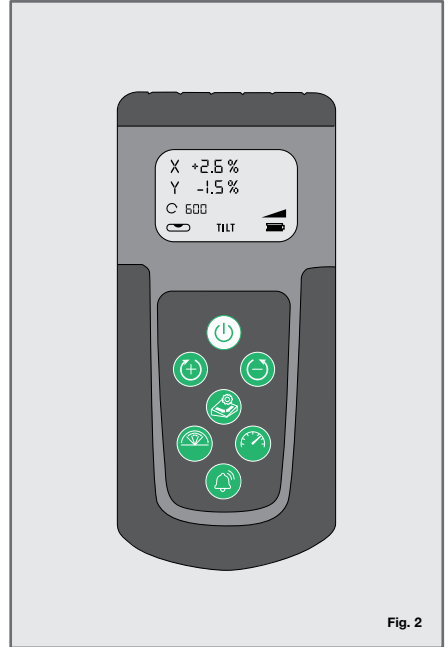

Fig. 2
- To set a grade / slope percentage on the Y-axis, press the **grade adjustment** buttons on the remote control to change to the desired number (positive or negative). When the required grade / slope percentage has been selected, press the **automatic grade mode** button to confirm the Y-axis setting (Fig. 2). If you do not wish to set a grade on this axis, press the **automatic grade mode** button to complete the dial-in grade / slope operation.